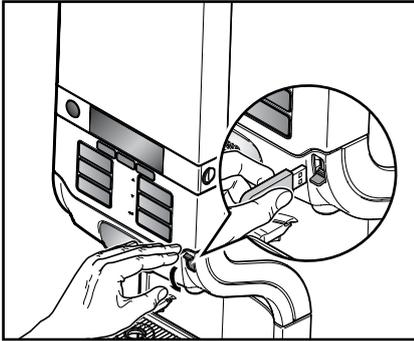

Fig. 51
- Insert the supplied USB key into the USB port on the dispenser (fig. 51).